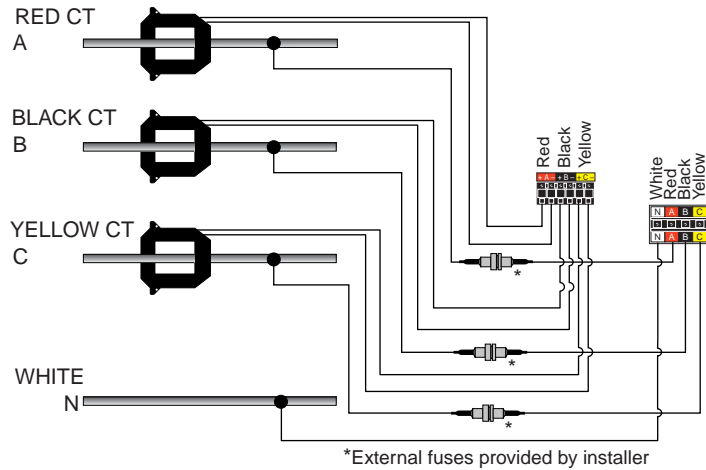
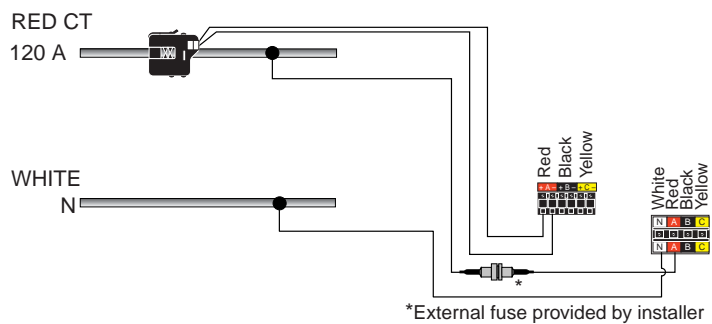

Figure 6: 3-phase, 4-wire installation
Figure 8: 1-phase, 2-wire installation
7. Attach CT leads to appropriately colored CT input terminals (e.g., red lead to red terminal) as shown (see Figure 6 through Figure 8). Polarity is indicated, with the minus (-) terminals connected to neutral within the meter, but polarity is insignificant to the operation of the meter.
8. Connect voltage leads to phase conductors as shown (see Figure 6 through Figure 8). Connect leads from the colored voltage terminals to the power conductor with the matching CT (e.g., red CT lead to red terminal). Since the meter is powered from the monitored source (red and neutral terminals), it is important to connect the voltage leads to a circuit that is not normally switched off.